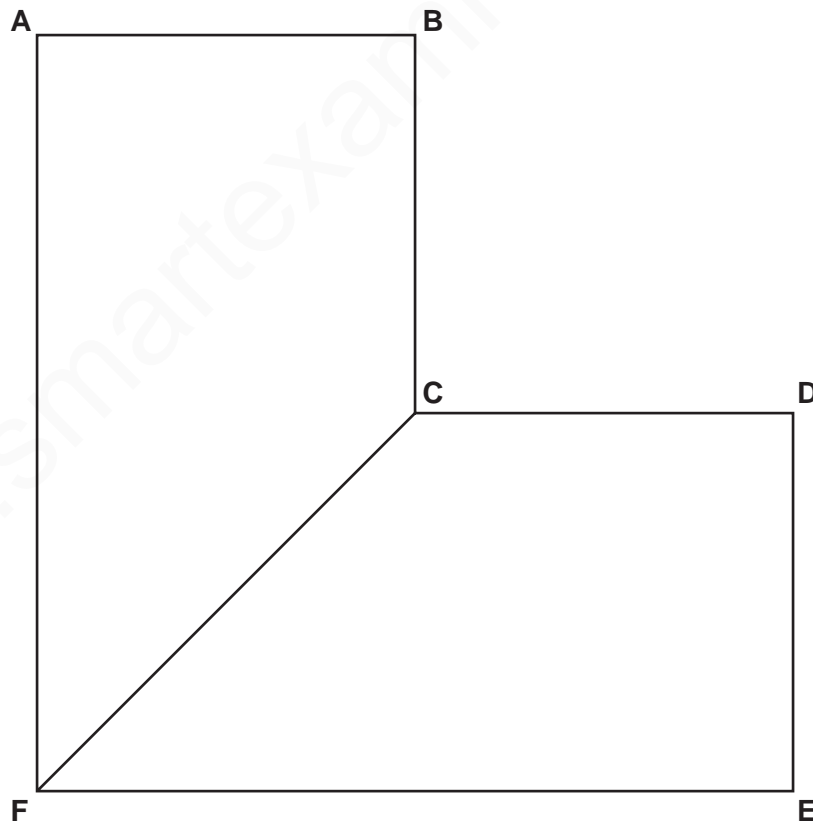

Fig. 2.6
- (iii) Use the value of y_0 from (ii) to mark, on Fig. 2.6, the position of the plumb-line **AG**.